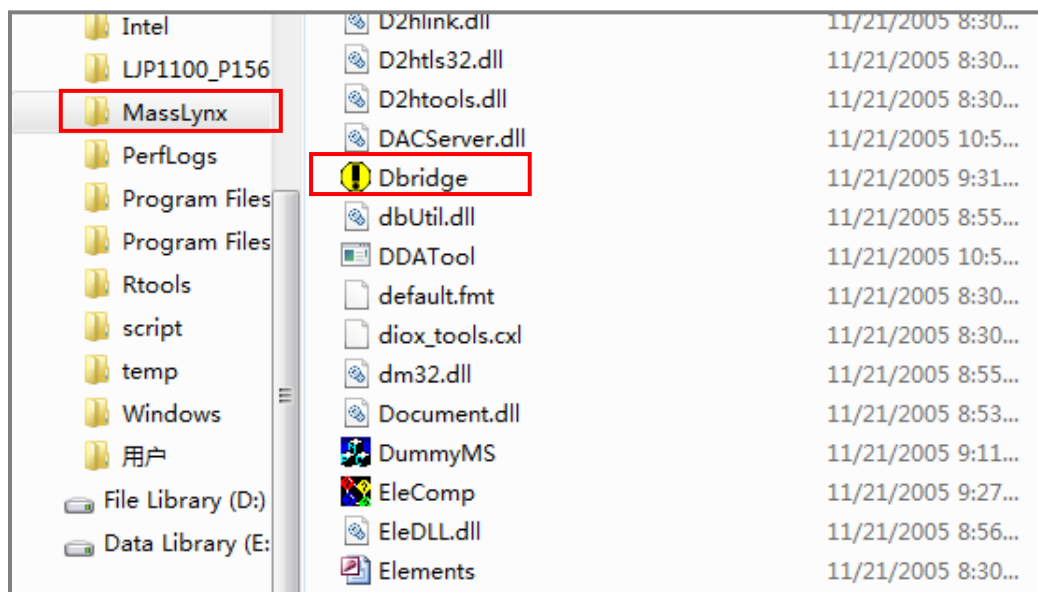

Figure 4. Dbridge is located in the MassLynex folder.
4. Peak lists of the centroid spectrum data can be exported in ASCII format by Dbridge (or DataBridge) in MassLynx (Default directory: C:\MassLynx) (Figure 4).